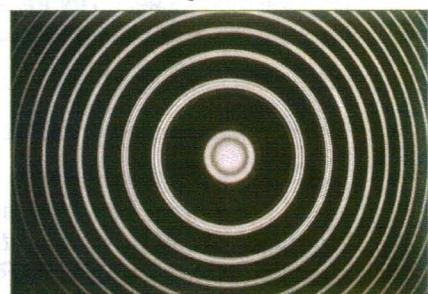

Figure 9c
- Continue to rotate the polarizer until the triple fringes shown in Figure 9c are seen. These are the strong π -polarized components that will be used for measurement.
- With the magnet set up for transverse viewing, adjust the polarizer to obtain a clear pattern of only the triple fringe set of the π -polarized emission as in Figure 9c.